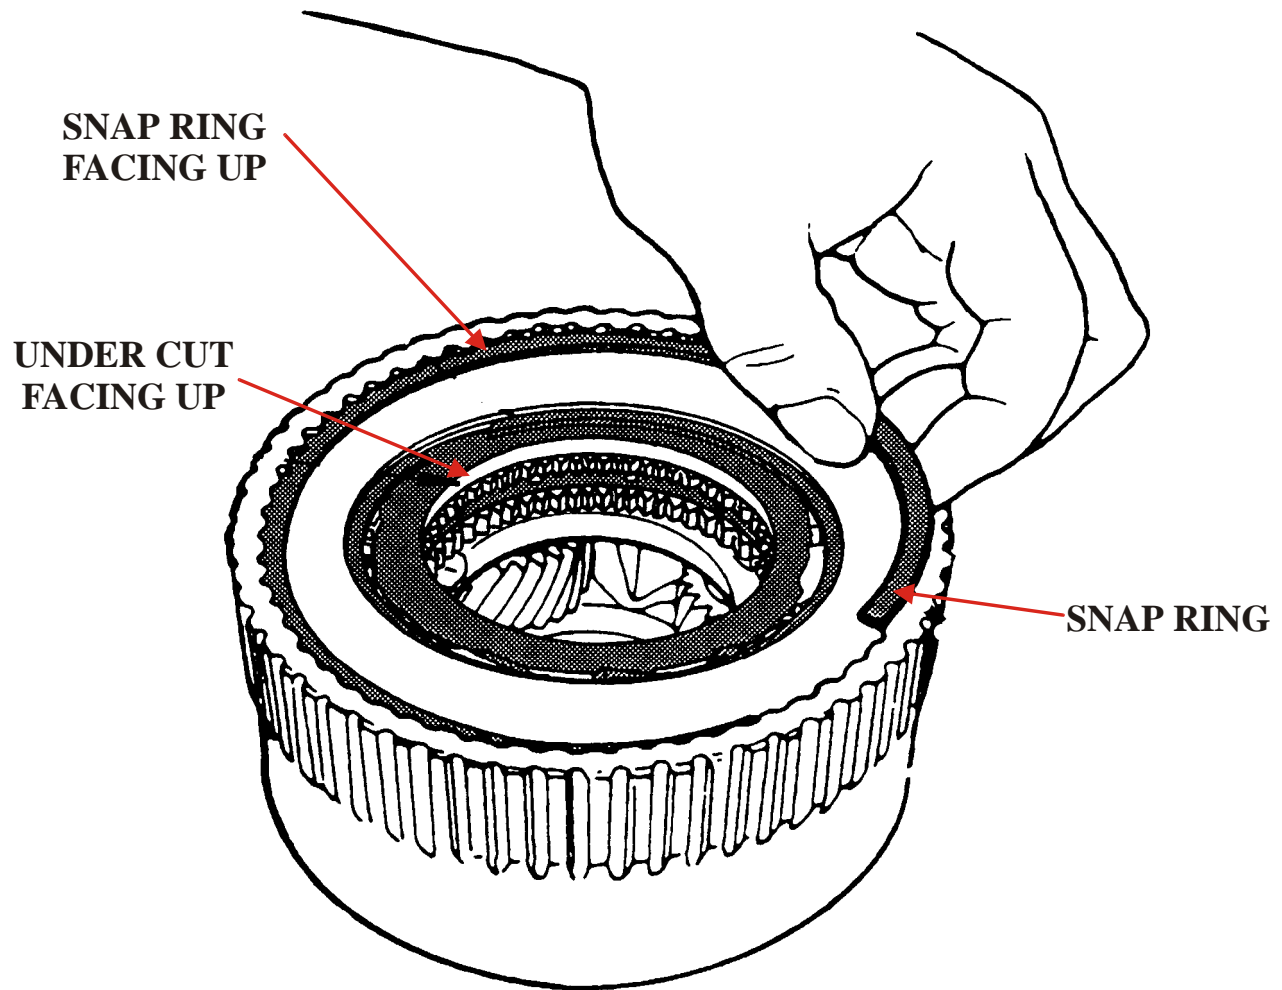

Figure 6
- (6) Install the completed Overdrive Roller Clutch Assembly into the overdrive ring gear, with the snap ring and the inner cam undercut, *facing up*, and install the outer race to ring gear snap ring, as shown in Figure 6.